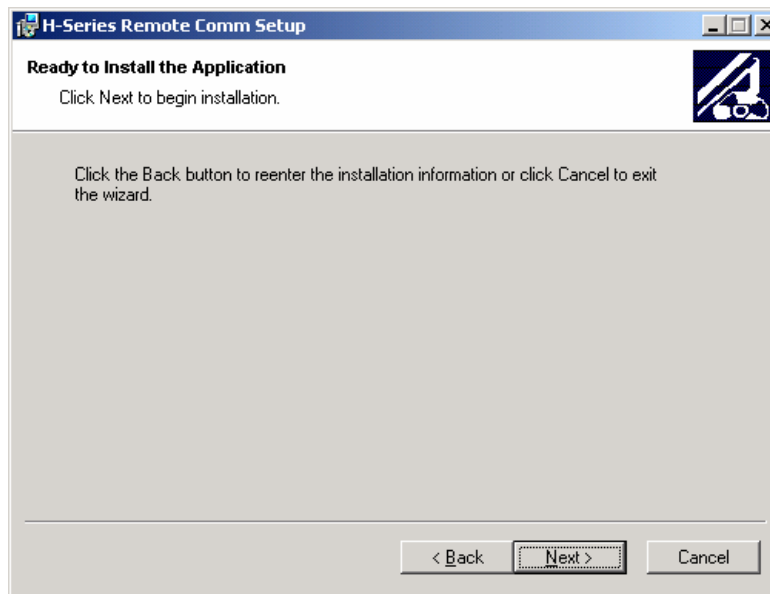

Figure 63 Installation of Software Screen
6. Install the software. (Refer to Figure 63.)